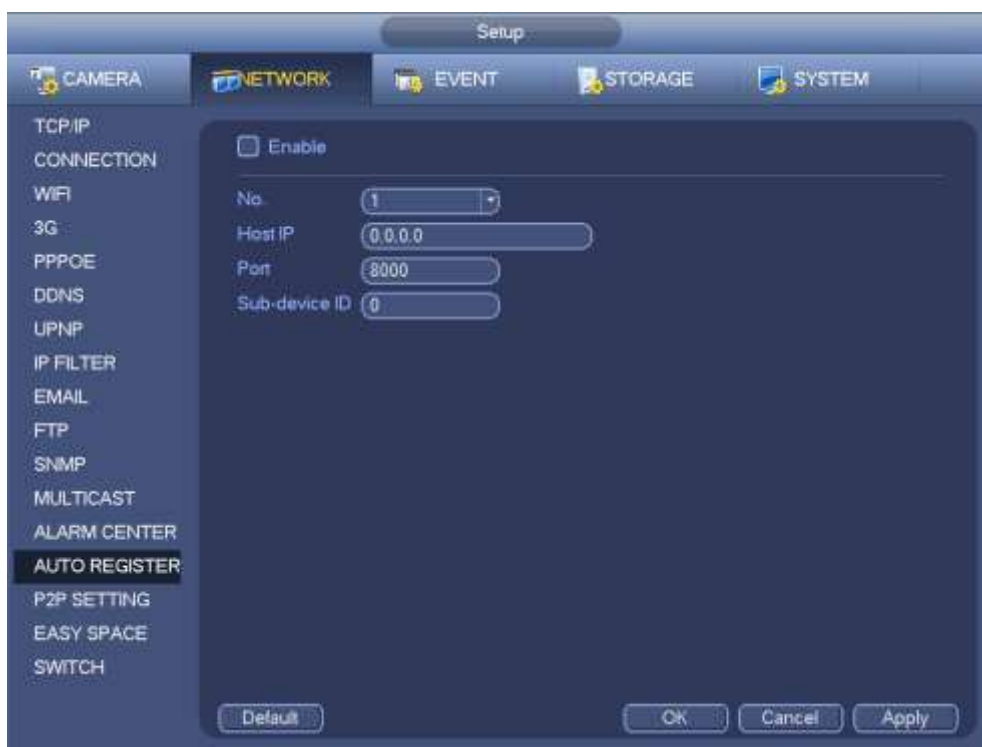

Figure 4-181
1) The setup interface is shown as in Figure 4-181.
3) Now you can add device. Please do not input default port number such as the TCP port in the mapping port number. The device ID here shall be the same with the ID you input in Figure 4-181. Click Add button to complete the setup.